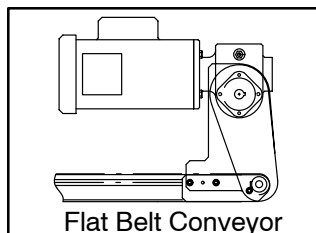
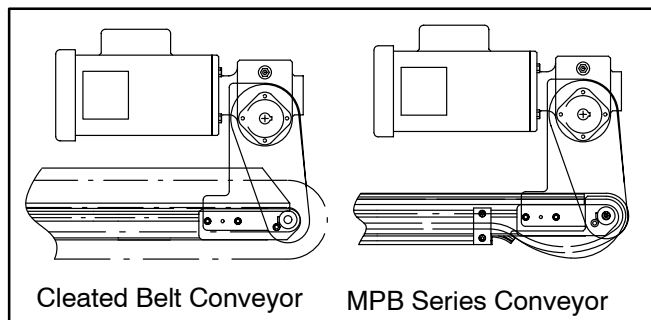

Figure 25
Figure 26
**NOTE:** Gearmotor position on Flat Belt conveyors shown in Figure 25. Gearmotor position on Cleated Belt and MPB Series conveyors shown in Figure 26.